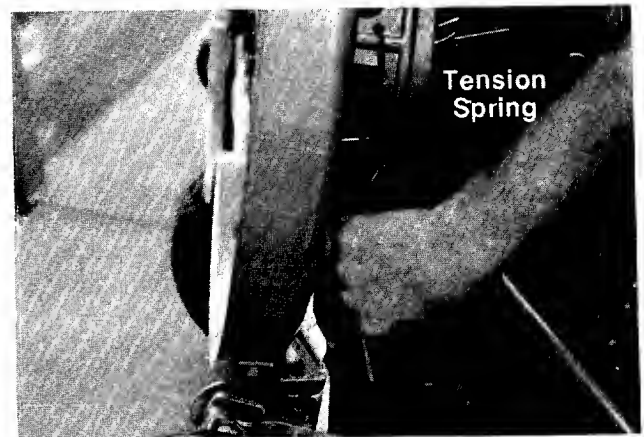

FIGURE 30.
5. Unhook the tension springs on both sides of the deck. See figure 30.